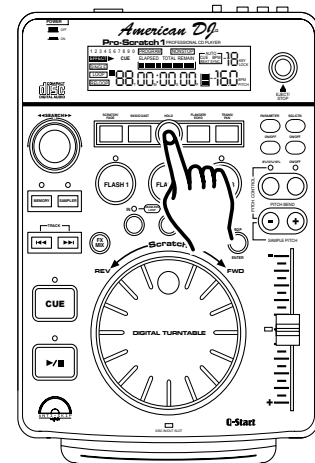

Figure 43
HOLD BUTTON: Use the **HOLD BUTTON (2)** to lock your customized parameters. If the hold button is not activated any changes to your parameters will be momentary. To activate the hold function press the **HOLD BUTTON (2)** as in figure 43. When the hold function becomes activated, the hold button will light up blue.
SCRATCH/FADE EFFECT: The Scratch effect simulates real time turntable scratching. The fade effect fade the volume in and out. Pressing **SCRATCH/FADE BUTTON (4)** once will activate the scratch effect (figure 43). When the Scratch Effect is activated the **SCRATCH/FADE BUTTON (4)** will glow. To activate the Fade Effect, be sure the scratch effect is off and press and hold the **SCRATCH/FADE BUTTON (4)** until it begins to flash. A flashing button will represent the Fade Effect is active. The fade effect will fade the music out and bring back in. The fade time can be adjusted in the parameters setting from 0010 to 9990. 9990 will give you the longest fade out time. The fade value ranges from 10ms to ten seconds.